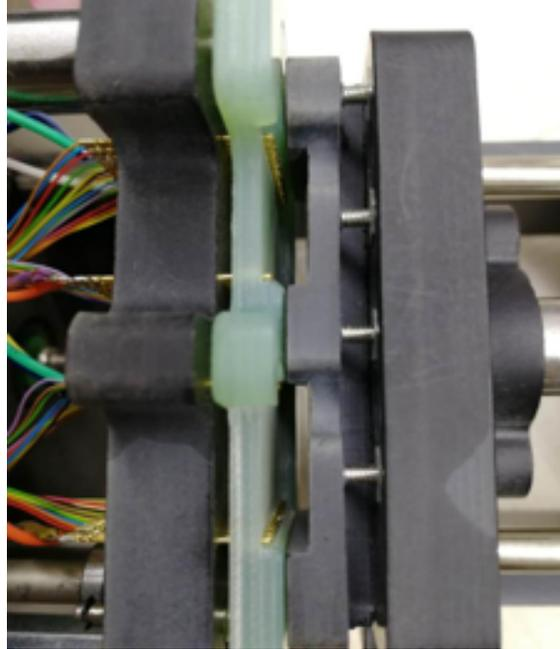

Figure 2-4. The Movable Plate and the Mounting Panel
- When users press the handle, they should leave a suitable distance between the movable plate and the mounting panel. The aim is to ensure that the probes are in touch with all the pins of the module, yet without crushing the module and its shield cover. Please see Figure 2-4 below: